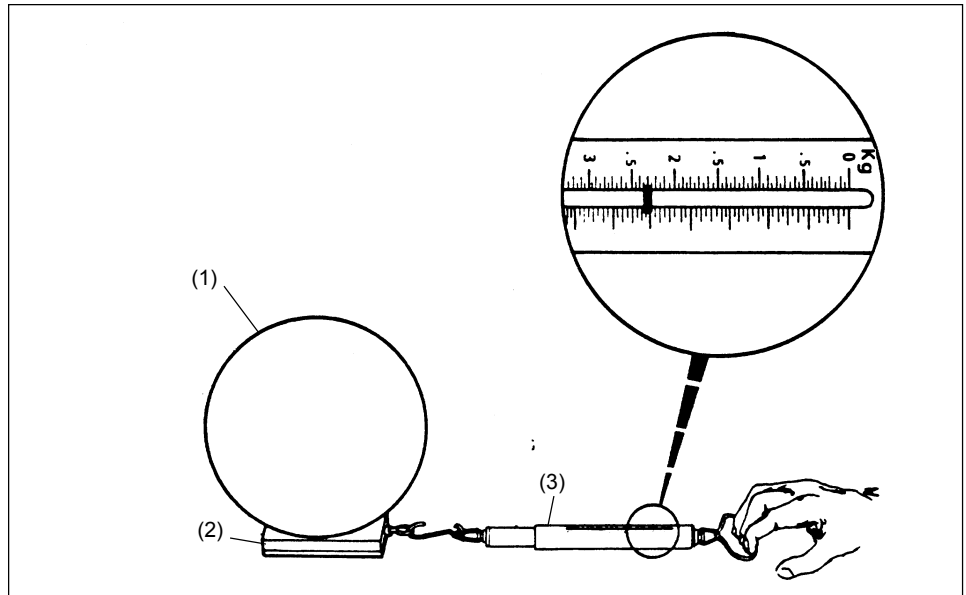

Figure 6.
3. Place the friction sled at the foul line with the leather slides against the approach surface. Place a 16 pound bowling ball on top of the sled resting between the three rubber support pads. See *Figure 6*.